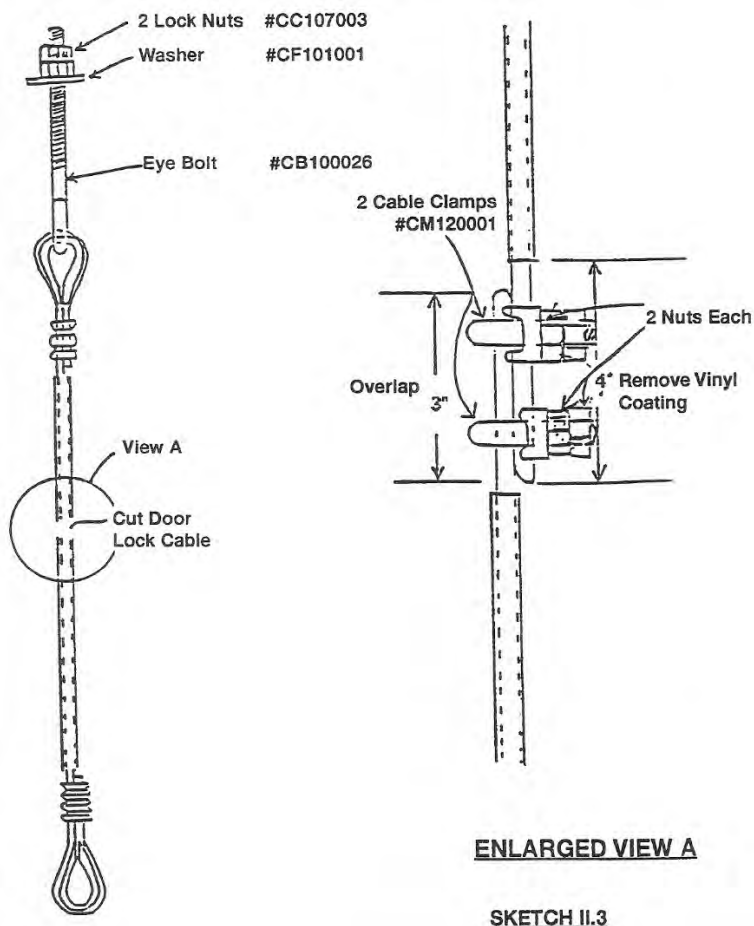

Figure 7
4. The lock cable will need to be shortened. Cut the cable in half. Strip the plastic coating back at each end. Overlap the two ends approximately 3" and apply the two cable clamps. (See Figure 7) The overlap dimension may need to be adjusted after trying the lock. After final adjustment apply a second nut to each threaded end of the 'U' bolt and tighten the two nuts together.